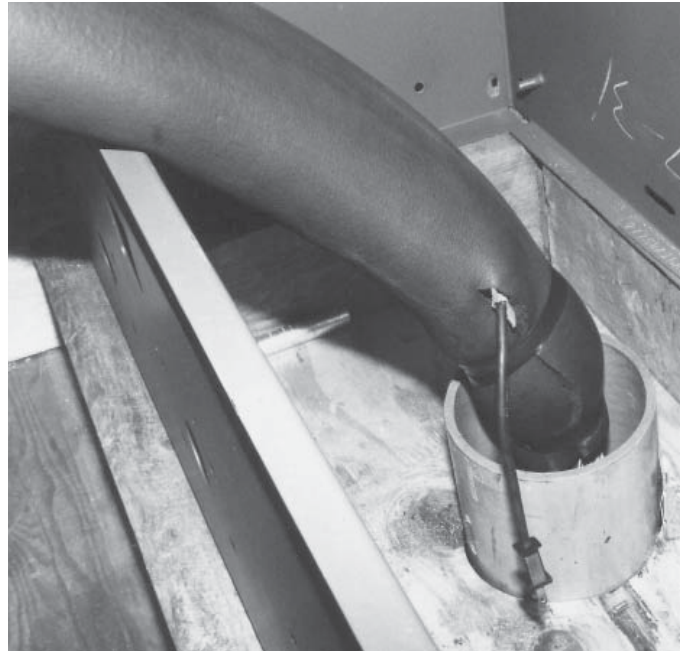

Figure 4.
- Pinch both ends together and tape closed as shown in Figure 4.